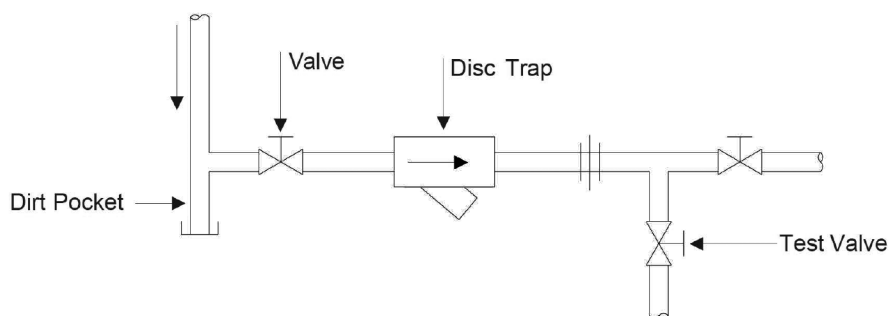

Figure 1
- Install the trap inlet below the liquid level of the equipment to be drained. Figure 1 shows the recommended piping method. **Use good piping practices. Make inlet piping as short as possible. Use a minimum number of elbows and other restrictions in inlet and outlet piping. Install a dirt pocket in the line ahead of the trap.**